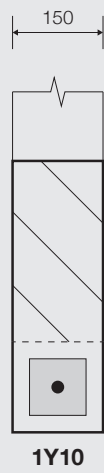

Figure 2
- Doors and windows jambs (Figures 2 & 7).